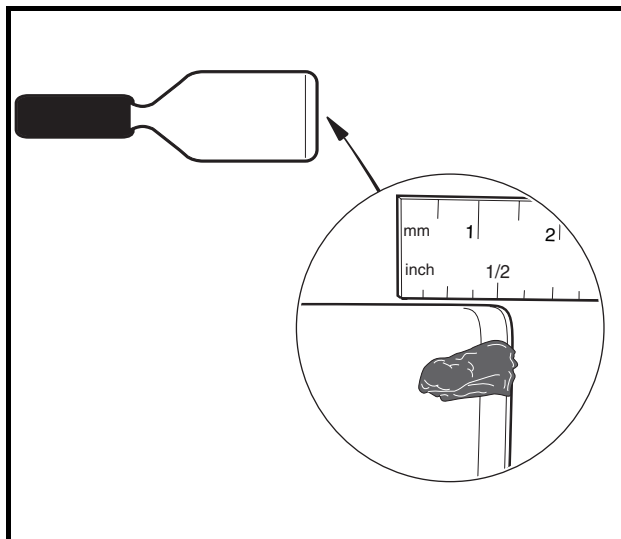

Figure 26-13 Grease on Putty Knife
- 2.1. Squeeze approximately 1/2 inch (1.3 cm) of moly-teflon lubricant (CCI P/N 102243403) from tube onto a putty knife as shown (**Figure 26-13, Page 26-12**).